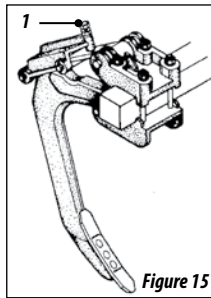

Figure 15
- The automatic disarm of the tynes come standard with adjustable precharge determined. To decrease or increase the charge, turn the screw (1) Figure 15 to the right or left as follows: